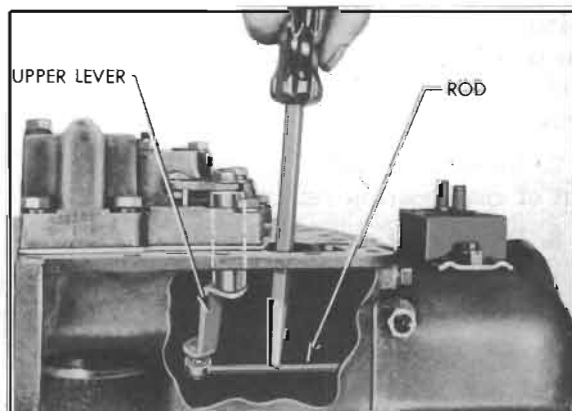

Figure 4-78—Disconnecting Valve Operating Rod from Upper Lever
3. Disconnect valve operating rod from valve operating lever (upper) by placing screwdriver on rod close to lever and exerting slight pressure. A spring loaded socket on rod engages a ball stud on lever. See figure 4-78.
1. Disconnect valve operating rod from upper operating lever if not previously done. See figure 4-78.